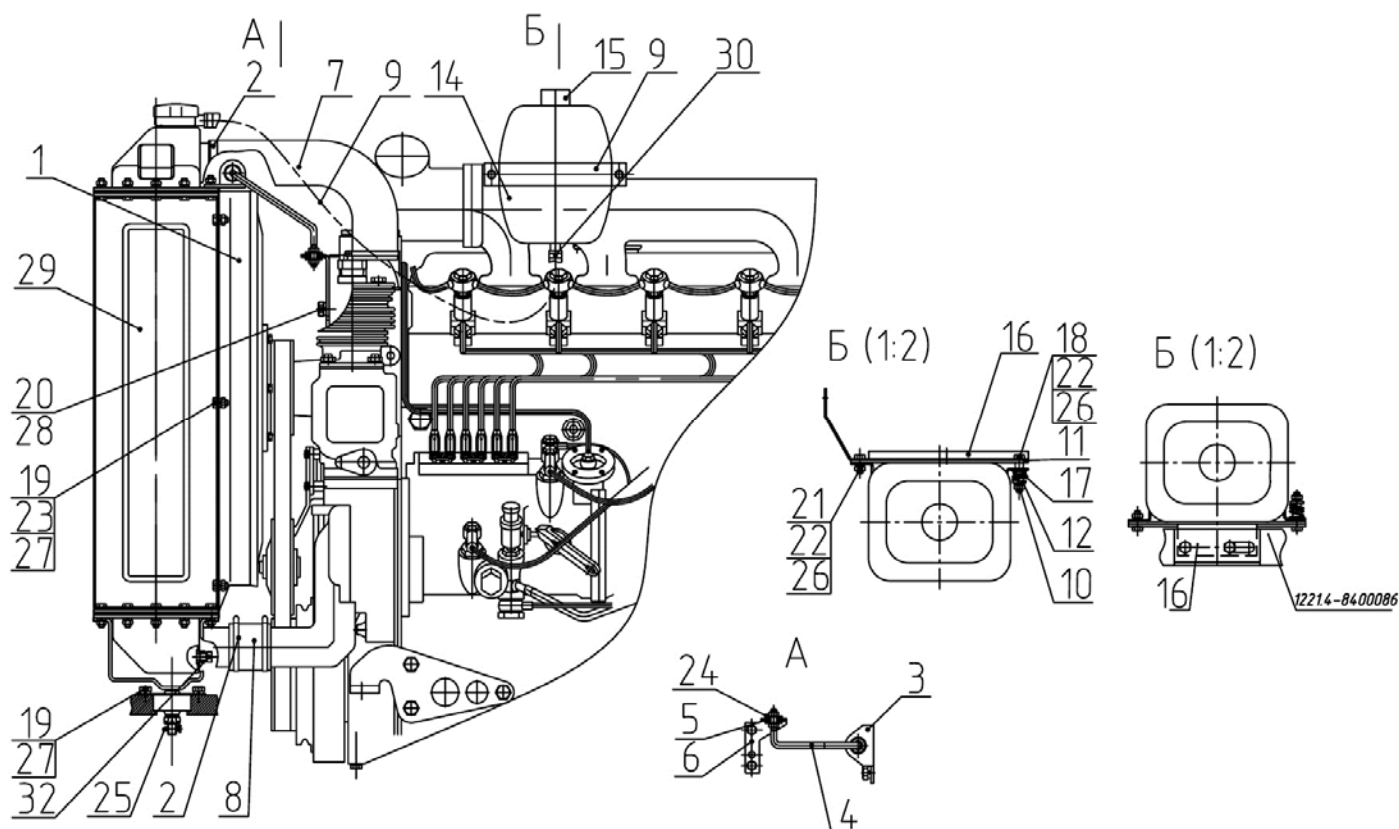

Figure 3.13 Mounting water radiator
- b) untighten collars 2 (Figure 3.13) and disconnect hoses 7, 8;